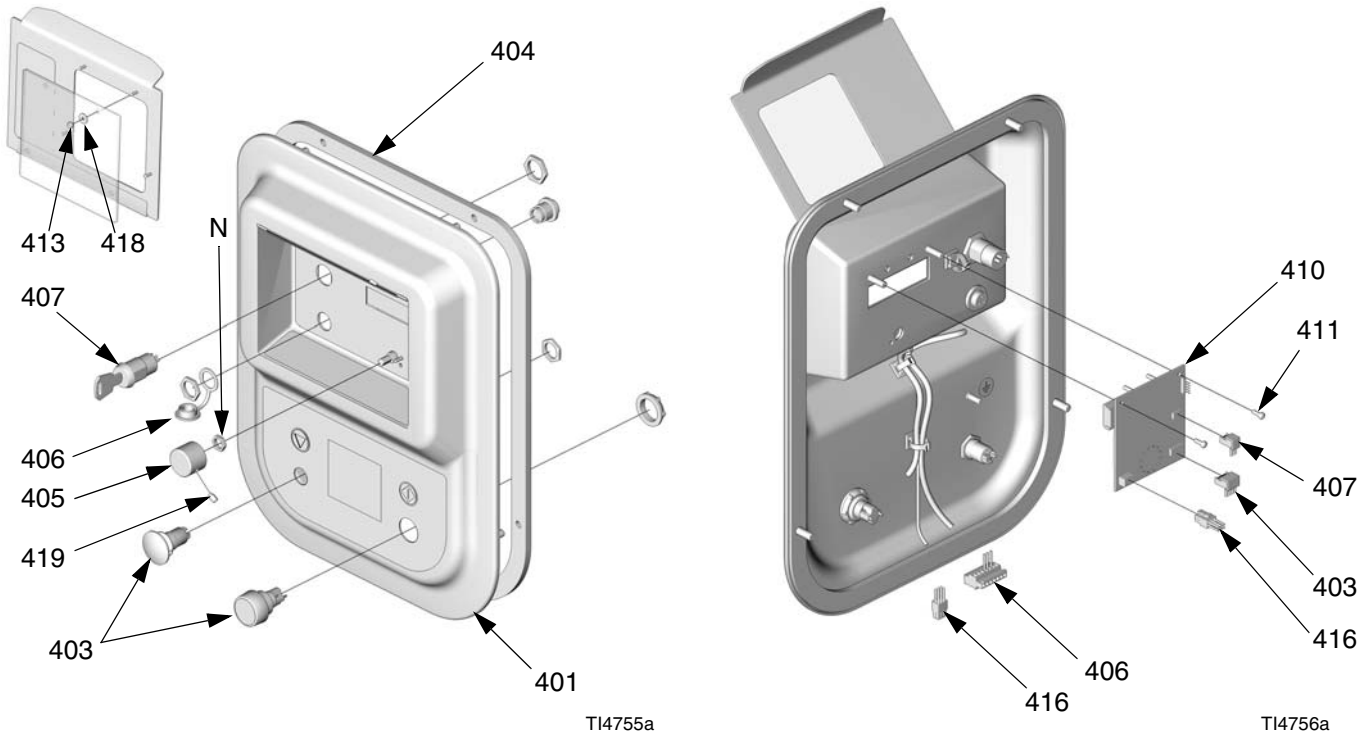

FIG. 4
2. Disconnect wires from display board (410). FIG. 4.
3. Remove two screws (411).
4. Loosen setscrew (419) from knob (405) and remove knob assembly. Remove jam nut (N).
5. Remove and replace display board (410).